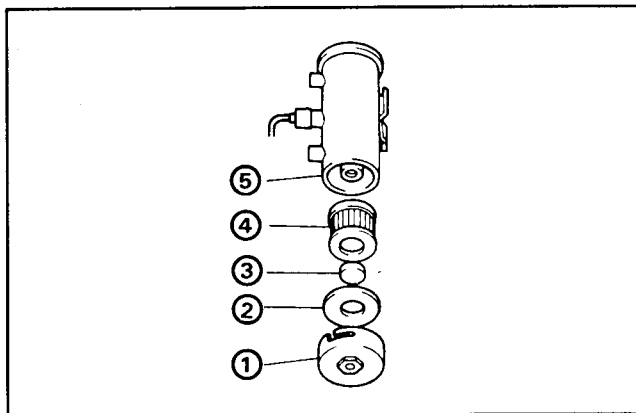

Figure 58
4. Use a 17 mm wrench to remove the cover from the fuel pump (Fig. 58). Remove the gasket, magnet and filter element.